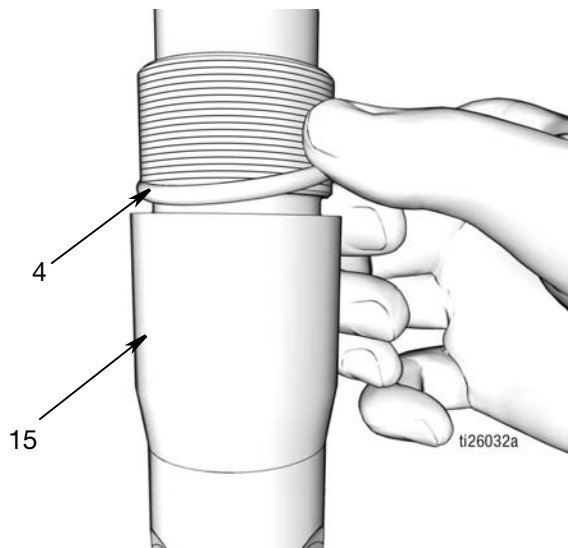

FIG. 43
- b. Apply a thin layer of grease to o-ring (4) Install o-ring around the outlet check valve (15) (FIG. 43).